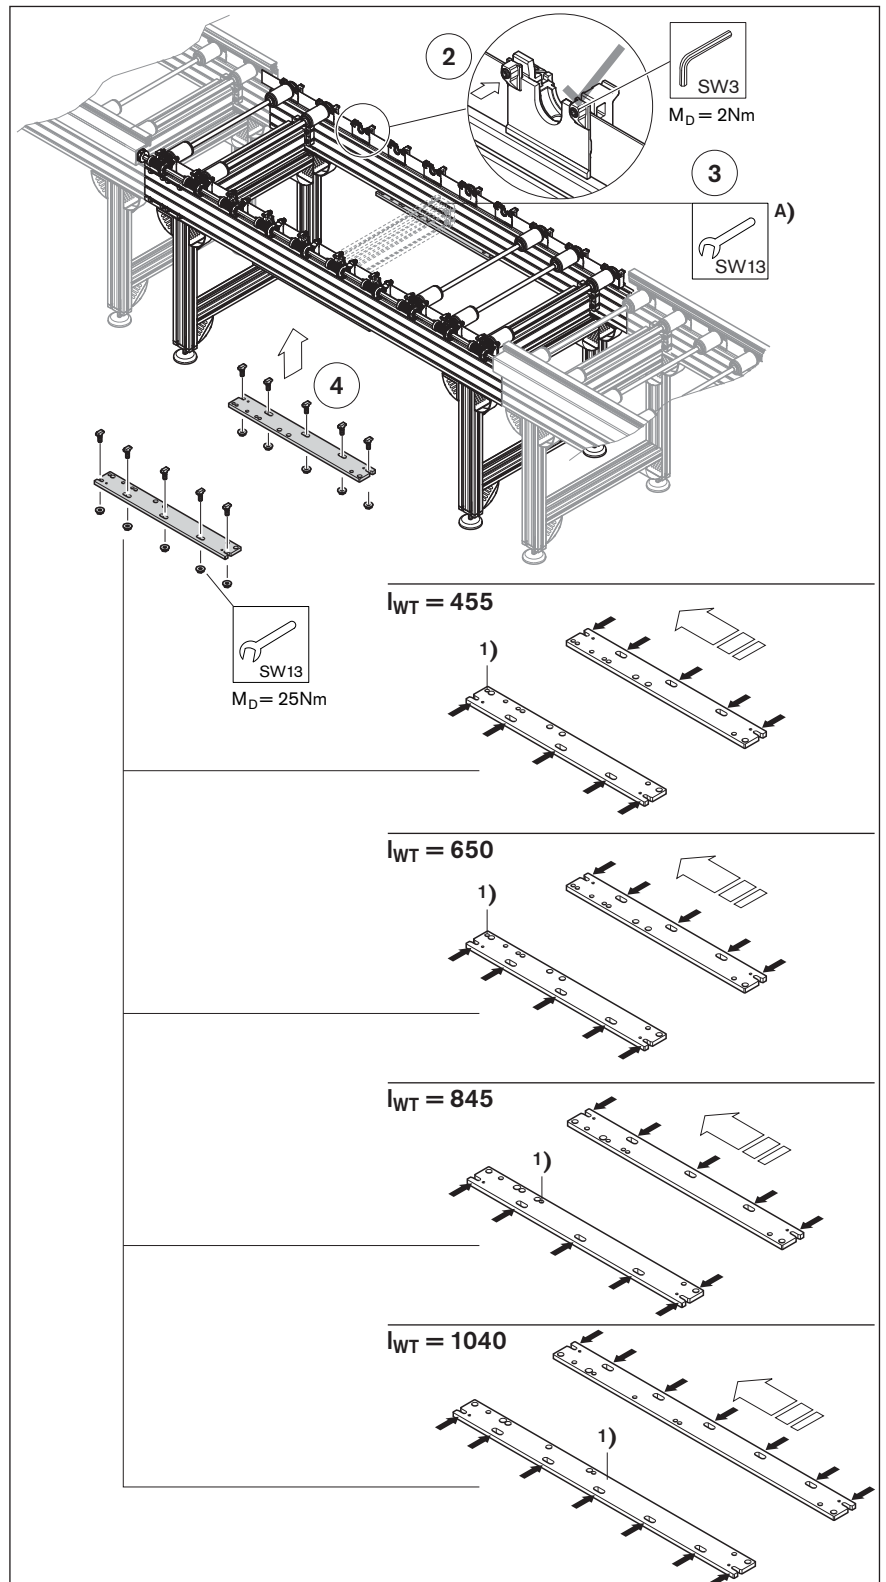

Fig. 51 PE 5, assembly from the top (1/3)
3. If necessary, relocate cross connectors for the conveyor unit in the area where the PE 5 is to be installed ( Fig. 51: A).